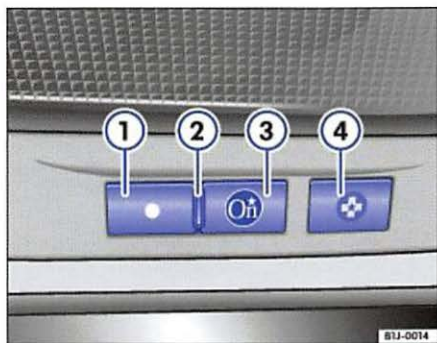

Fig. 8 OnStar: DOT button
- Press the DOT button ⇒ fig. 8 (1), OnStar response: <Ready>.
– Press the DOT button ⇒ page 11, fig. 8 ①, OnStar response: <Ready>.